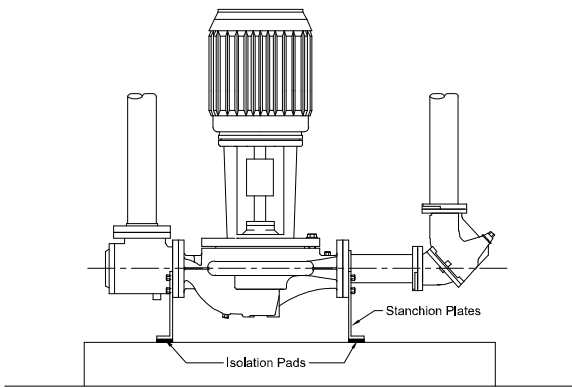

Fig. 2.7 With stanchion plates
- 2.7 Fig. 2.7 illustrates stanchion plates at the pump inlet and outlet ports that may be supplied for installation convenience. Isolation pads must be used under the legs and monitored as pipe hangers are adjusted to ensure the pump flanges are not supporting the piping. Bolting to the floor or housekeeping pad is not recommended. If the stanchions are bolted down the bolts must be isolated from the stanchion or an inertia base and flexible pipe connectors used.